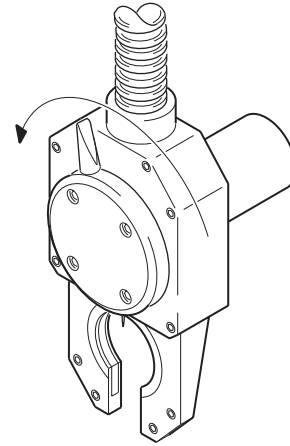

Figure 19 Releasing the Locking Lever
1. Rotate the locking lever on the weld head counter-clockwise until it stops. See Figure 19.